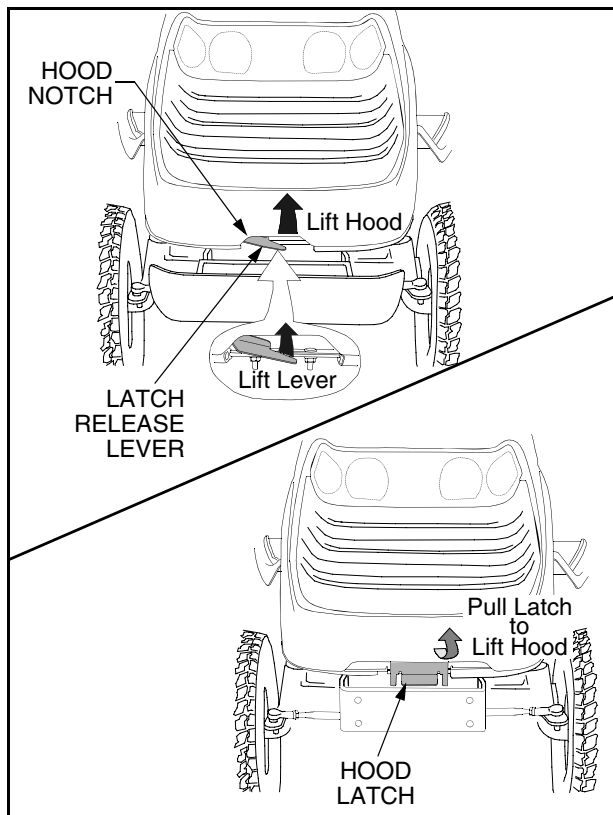

Figure 34
- **Tractors with Hood Latch Bracket.** Pull the hood latch bracket forward/upward to release the front of hood; then lift hood. See Figure 34.